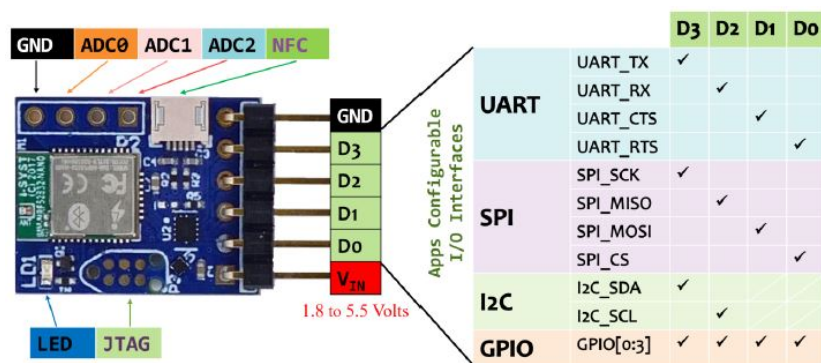

Fig. 2. Pin layout of BlueIO832-Mini on the front side
The pins and connectors layout of BlueIO832-Mini are shown in Figs. 2 and 3.
Depending on the use case and the specifications of the user's target device, pins D1-D4 on BlueIO832-Mini can be configured for UART, SPI, I2C or GPIO by using BlueIOWizard mobile app. Please follow Figs.2 and 3 for the appropriate pin assignment.
(*): The pins are pre-configured as in Fig. 2.
2. Based on the pin assignment table in Fig. 2, connect the BlueIO832-Mini [D1-D4] pins to the target device UART's pins, as shown in Fig. 5.